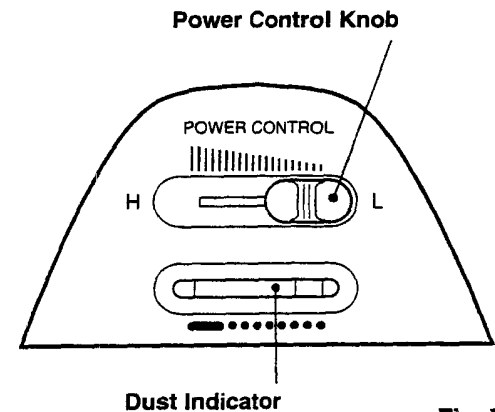

Fig. 7
- 2 To turn off the vacuum cleaner, touch the switch to the "OFF" position. (Fig. 7)
A slide switch allows selection of any cleaning power from low "L" to high "H". To increase the suction power, slide the switch toward the "H" position. To decrease the suction power, slide the switch toward the "L" position. (Fig. 7)